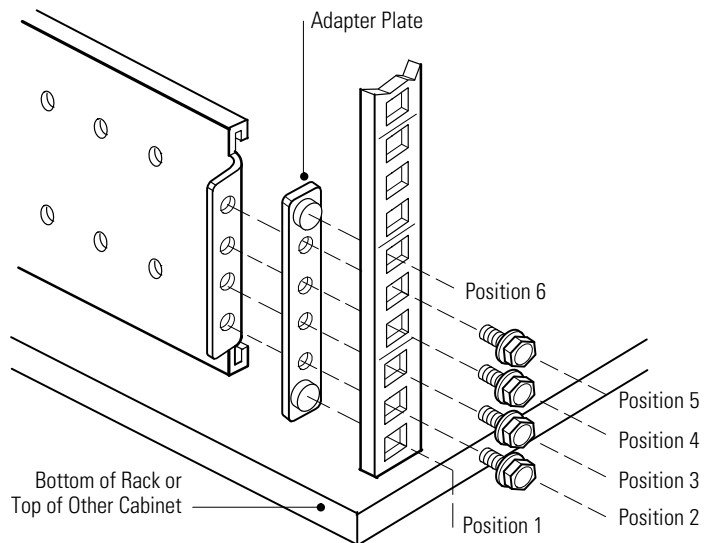

Figure 17. Securing the Rear Rail (Right Rail Assembly Shown)
5. Secure the rail to the rear of the rack with four M5 machine screws and an adapter plate (see Figure 17).